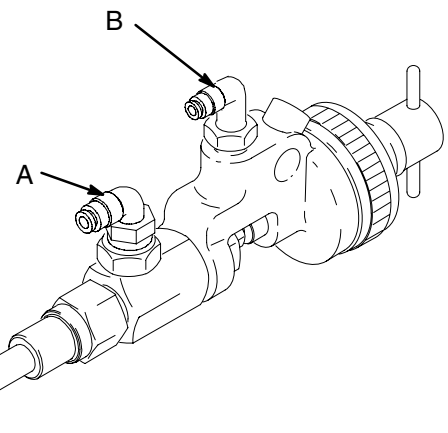

Fig. 1
1. Connect the blow-off air supply line (F) to the fitting (A) on the valve. See Fig. 1.
2. Connect the pilot line (E) to fitting (B) on the valve.